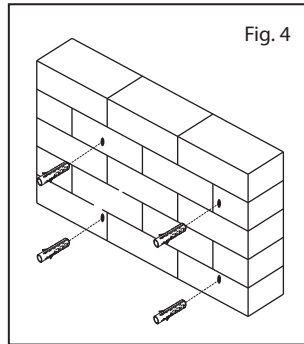

Fig. 4
- 4 Insert a concrete anchor (C) into each hole so that it is flush with the concrete surface (see Fig. 4). A hammer can be used to lightly tap the anchors into place if necessary.